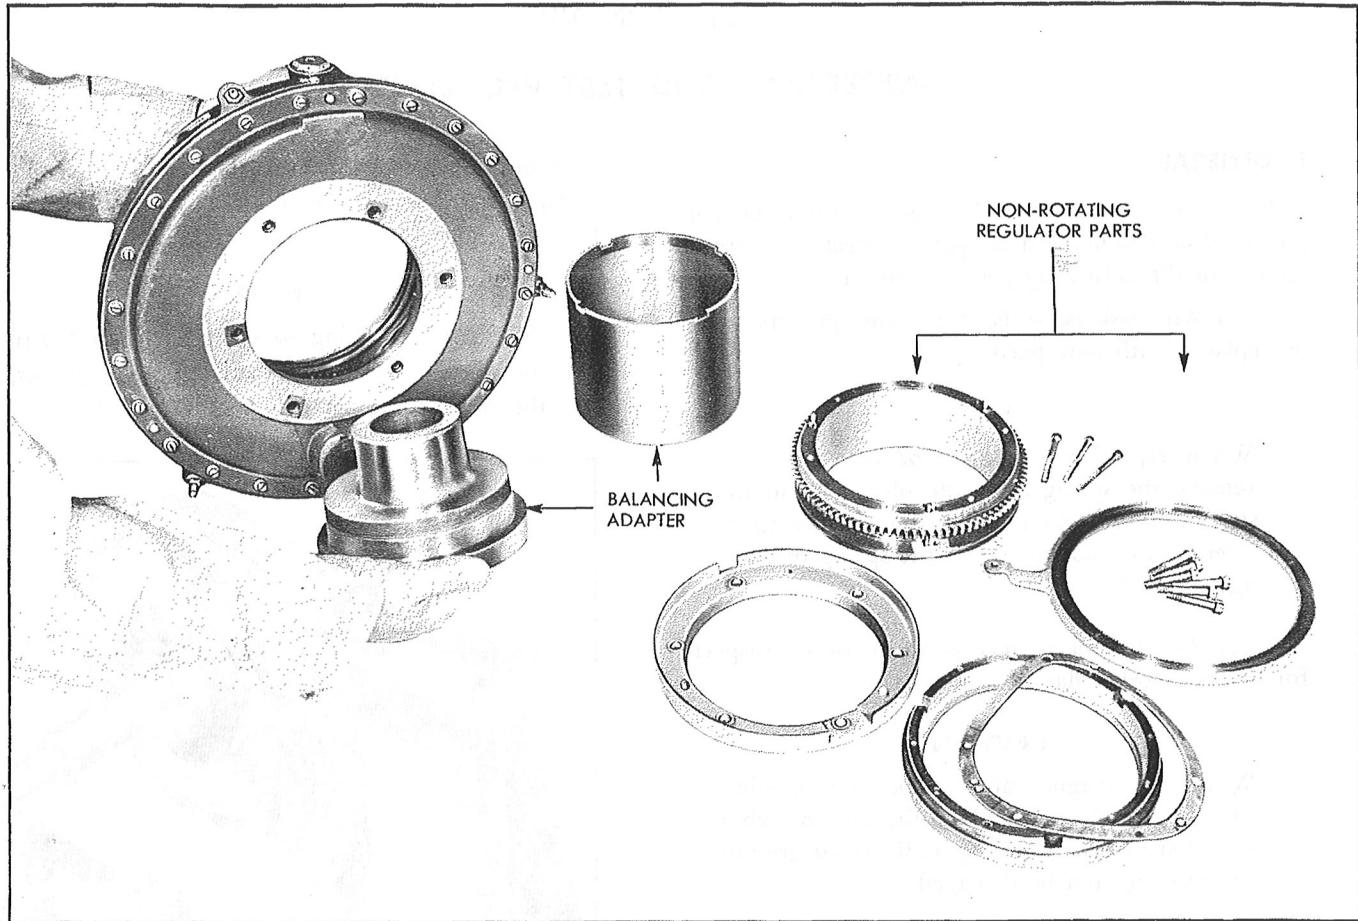
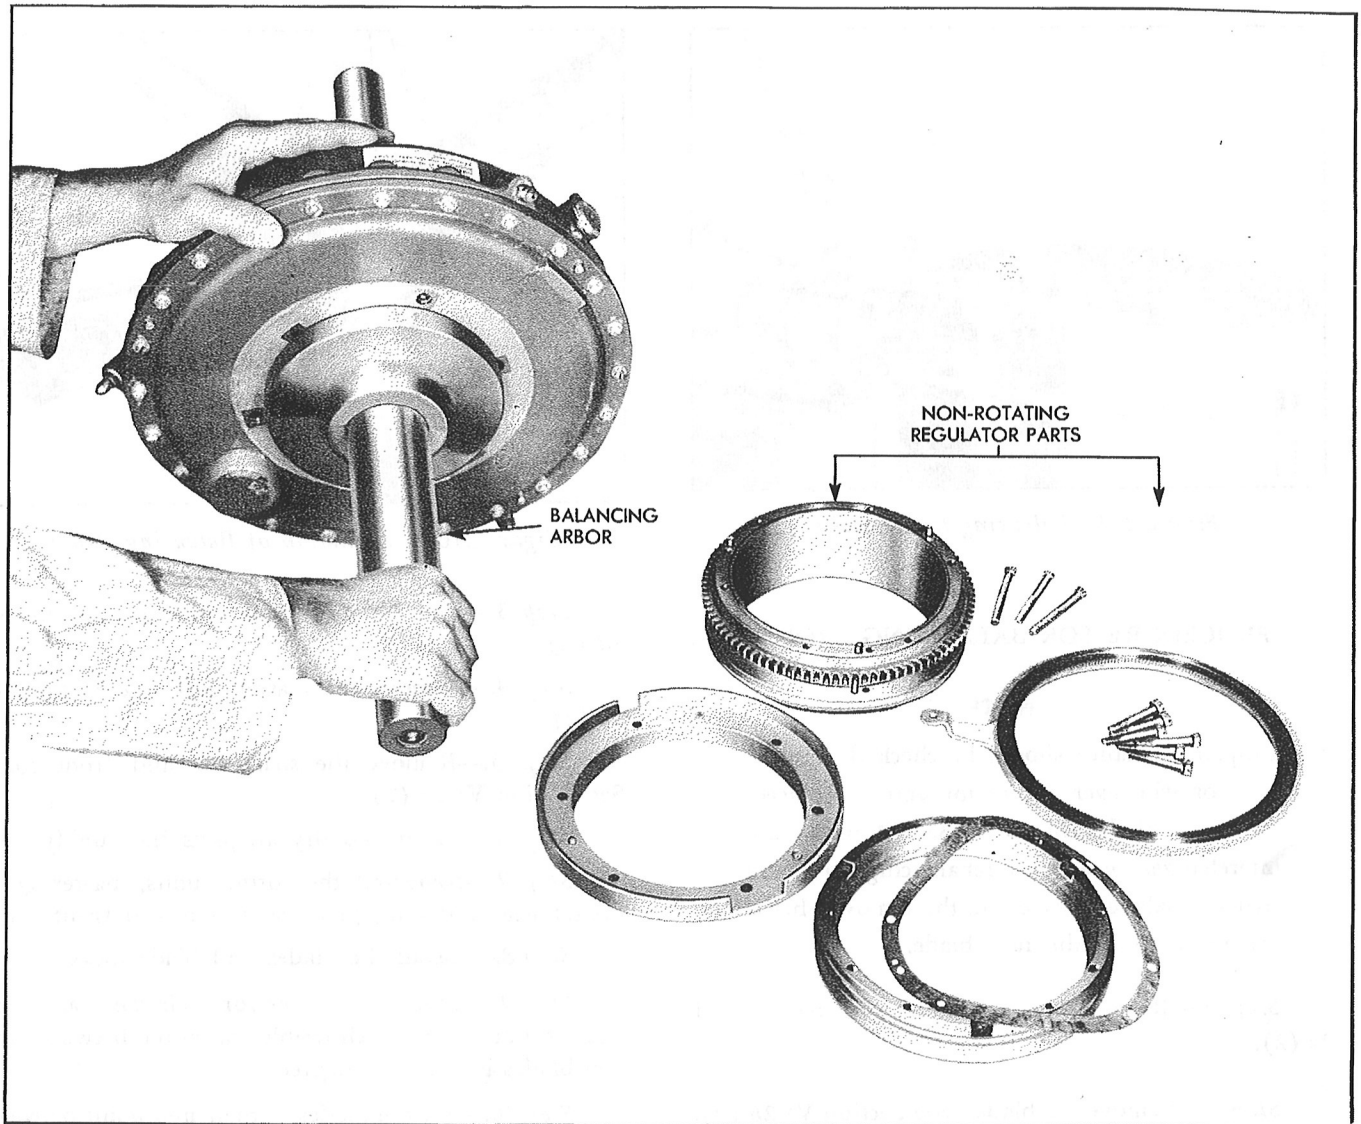

Figure 211—Installation of the Balancing Adapter
Figure 212—Installation of the Balancing Arbor
*Step 4.*—Assemble the balancing adapter to the regulator, as shown in Figure 211. Install the regulator balancing arbor, as shown in Figure 212.